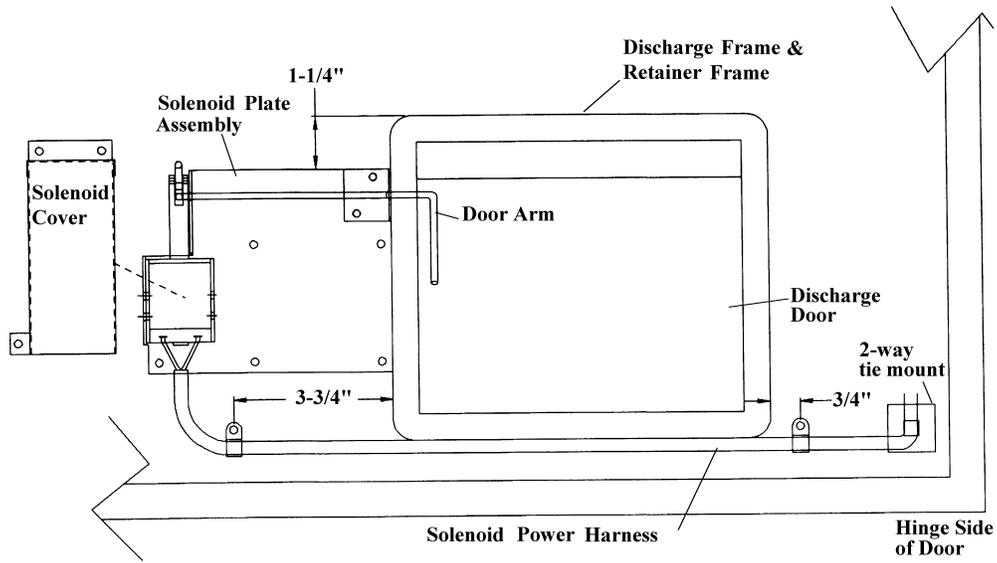

Figure 1
2. Install the pre-assembled parts, on the refrigerated side of the Inner Door, as shown in figure 1 on page 4.
6. Install the Solenoid Cover using three #8x½ screws. When installed properly, the cover should not interfere with the operation of the Solenoid. See figure 1 on page 4.
9. Install the Solenoid Cover using three #8x½ screws. When installed properly, the cover should not interfere with the operation of the solenoid. See figure 1.